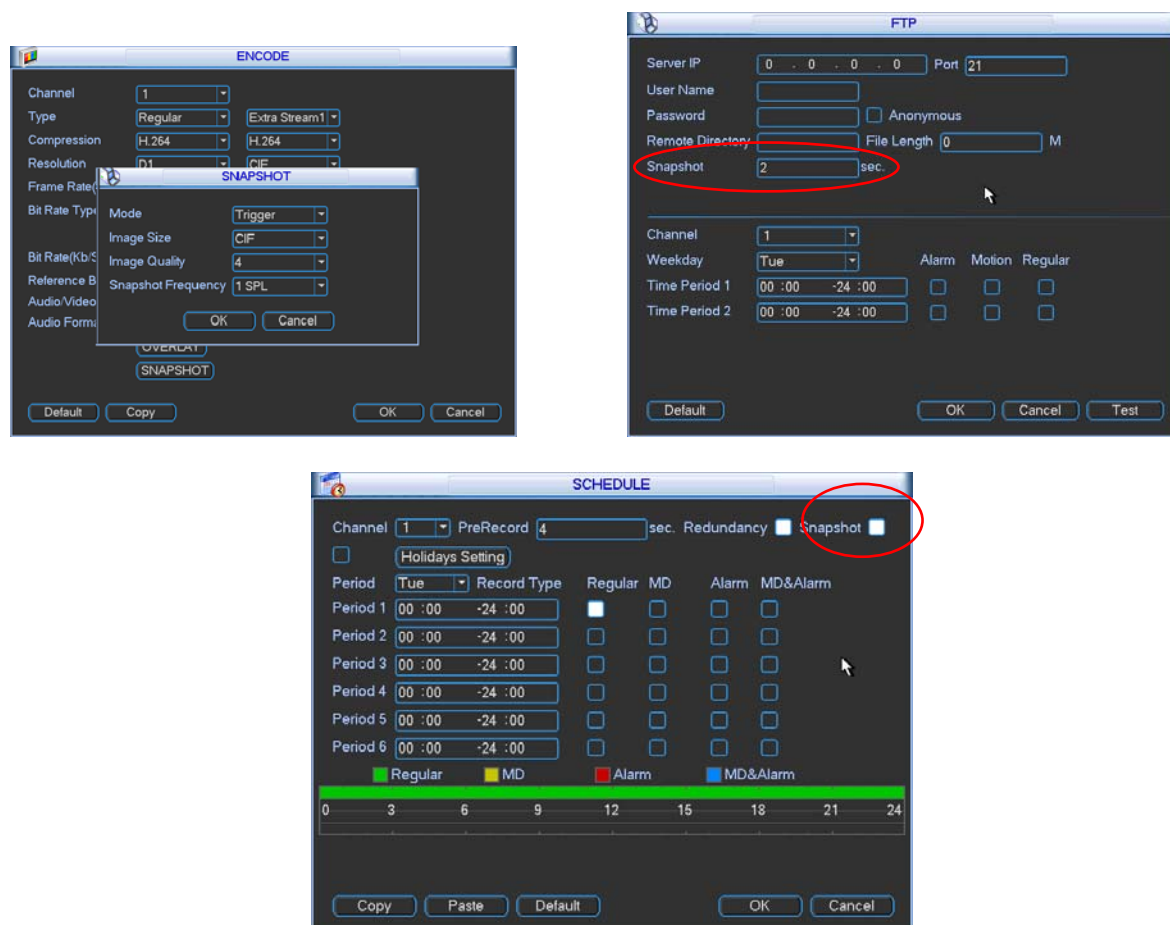

Figure 4-19
In Encode interface, click snapshot button to input snapshot mode, size, quality and frequency. See the interface on the left of Figure 4-19.
In FTP (Main Menu->Network->Network Setting) interface, please input upload interval. See the interface in the middle of Figure 4-19.
In Schedule interface, please enable snapshot function. See interface on the right of Figure 4-19.
Please refer to the following figure for detailed information. See Figure 4-19.
- In FTP interface please input upload interval. See the interface in the middle of Figure 4-19.